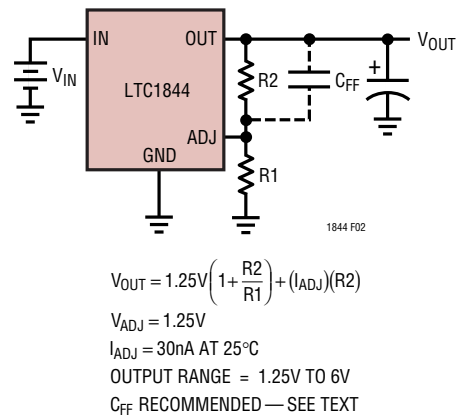

Figure 2. Adjustable Operation
**ADJ (Pin 4, Adjustable Devices):** Output Adjust. For the adjustable versions of the LTC1844, this is the input to the error amplifier. It has a typical bias current of  $30\text{nA}$  flowing into the pin. The ADJ pin reference voltage is  $1.25\text{V}$  referenced to ground. The output voltage range is  $1.25\text{V}$  to  $6\text{V}$  and is typically set by connecting ADJ to a resistor divider from OUT to GND. See Figure 2.
The adjustable version of the LTC1844 has an output voltage range of 1.25V to 6V. The output voltage is set by the ratio of two external resistors as shown in Figure 2. The device servos the output to maintain the ADJ pin voltage at 1.25V (referenced to ground). The current in R1 is then equal to  $1.25\text{V}/R1$  and the current in R2 is the current in R1 plus the ADJ pin bias current. The ADJ pin bias current, 30nA at 25°C, flows through R2 into the ADJ pin. The output voltage can be calculated using the formula in Figure 2. The value of R1 should be no greater than  $1\text{M}\Omega$  to minimize errors in the output voltage caused by the ADJ pin bias current. Note that in shutdown the output is turned off and the divider current will be zero once  $C_{\text{OUT}}$  is discharged.
Because the ADJ pin is relatively high impedance (depending on the resistor divider used), stray capacitance at this pin can introduce significant phase shift in the error amplifier loop. The PCB layout should be designed to absolutely minimize the capacitance seen at the ADJ pin. To ensure stability over all operating conditions when utilizing large divider resistors, a small feedforward capacitor ( $\approx 1000\text{pF}$ ) in parallel with the upper divider resistor ( $C_{\text{FF}}$  in Figure 2) is recommended. As an added bonus, this capacitor will improve transient response.